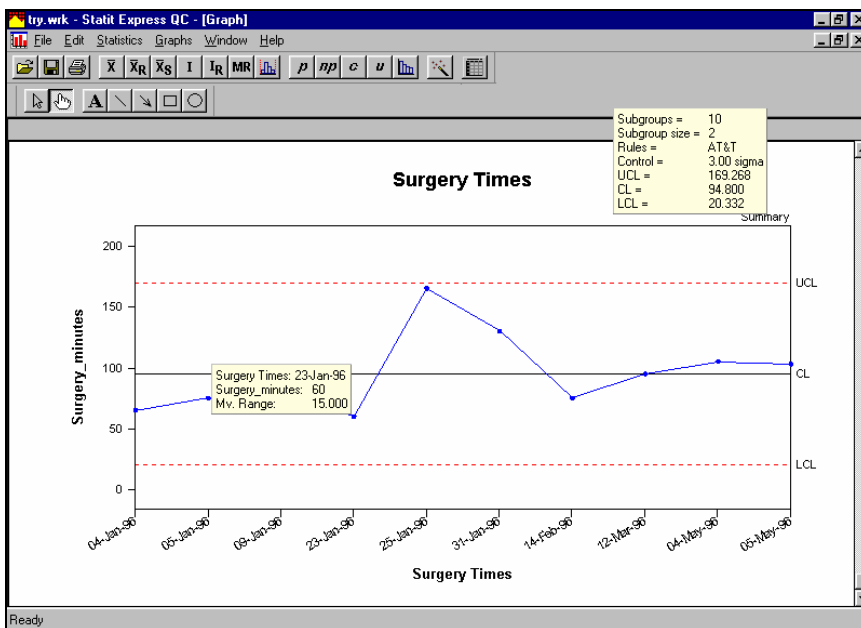

Figure 7. Individual Chart with Data Tips
- **Enable Data Tips** - Data Tips provide a mechanism to instantly access information about a data point on a chart, rule violations and summary chart information, such as the values of control limits. Data Tips may be disabled. This prevents the "Summary" hotspot from being displayed for printed output and also increases performance of chart production. (See example of Data Tips on Figure 7.)